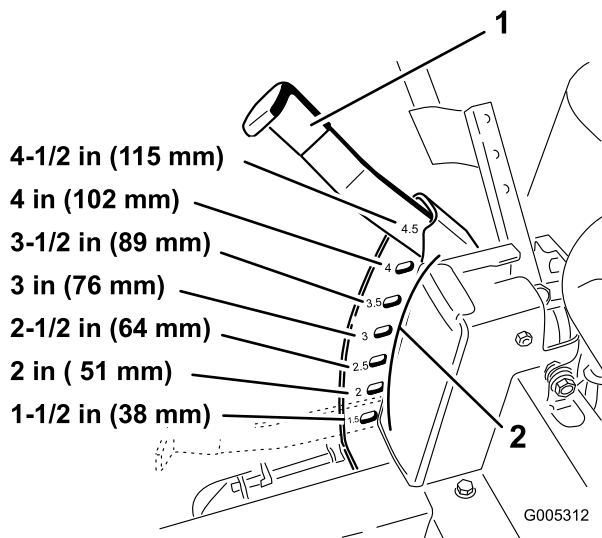

Figure 15
3. Raise the height-of-cut lever to the transport position, cutting height position 4.5 (also the 4-1/2 inch [115 mm]) (Figure 15).